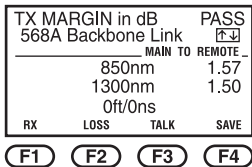

Figure 5-12. Autotest Margin screen.
- From either the TX Loss or RX Loss screen, press the **F2** button to display the Autotest Margin Screen (see Figure 5-12). This screen shows the amount of headroom between the loss budget and the measured loss.